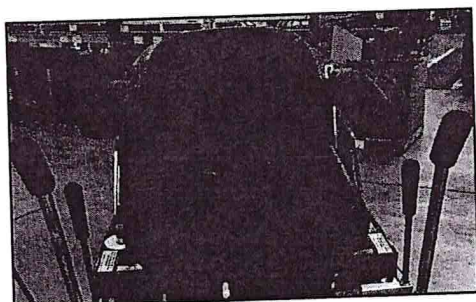

FIG. 13
Hydraulic Levers (Figure 13)
6. Maneuver machine with hydraulic levers (Figure 13).